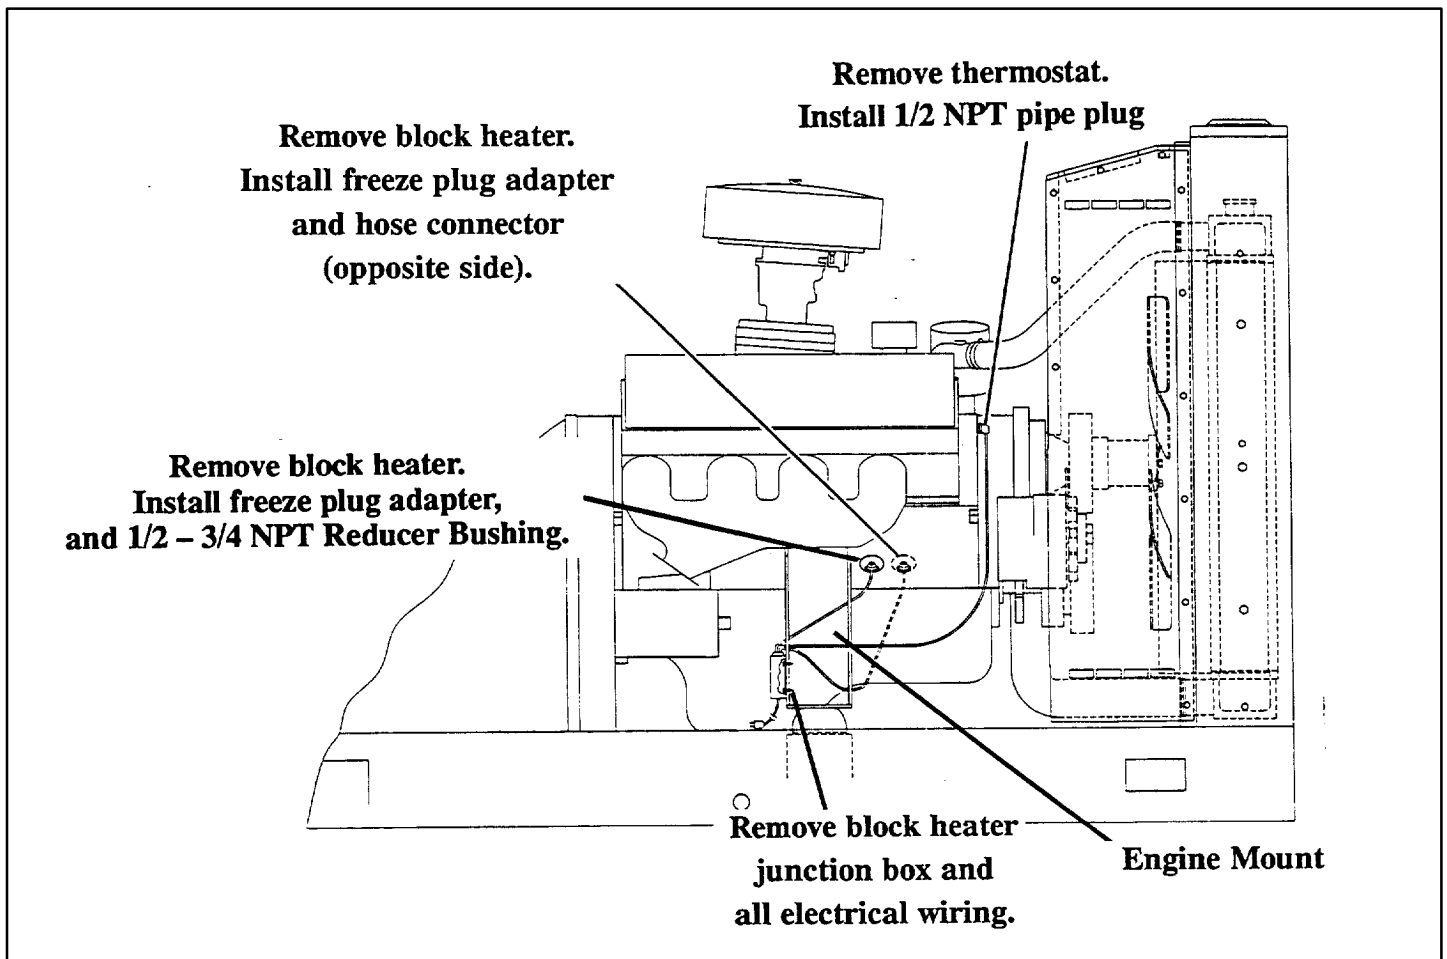

Figure 1. Block Heater Kit Removal (Immersion Type)
- 3a. Remove electrical connections to block heaters and thermostat. Remove block heater junction box from generator set. These parts will not be reused. See Figure 1.